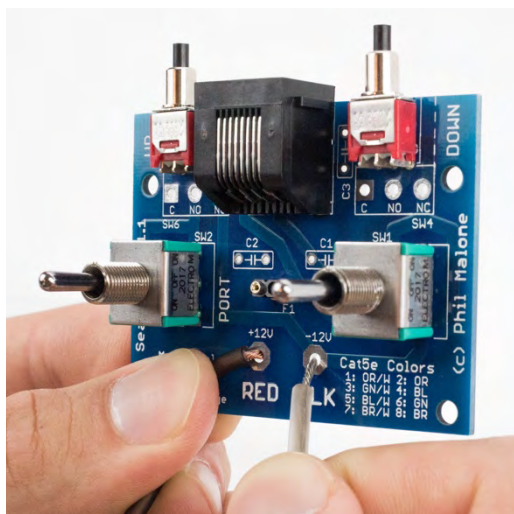

Figure 25
- ❑ Insert the copper-colored wire into the hole labeled +12V RED on the PCB from the component side. (Figure 25)
- ❑ Insert the silver-colored wire into the hole labeled -12V BLK on the PCB from the component side. (Figure 25)